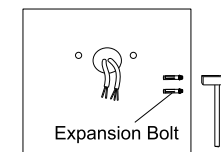

Figure 20
Step 2: Knock the expansion bolts into the wall. (Figure 20)